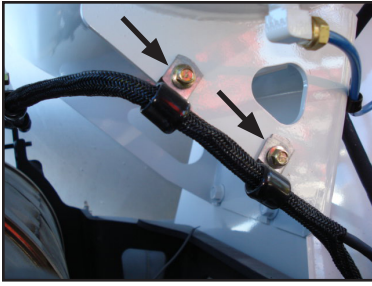

Figure 2:
6. Disconnect and retain clamps and hardware that secure the air lines on the tank bracket (Figure 2).
15. Reconnect the clamps and hardware that secure the air lines on the tank bracket (Figure 2).